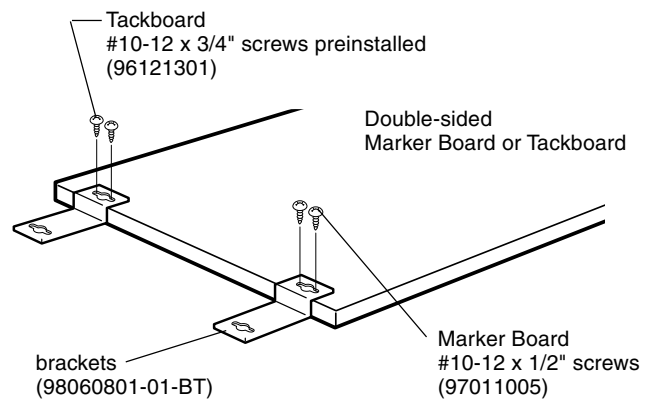
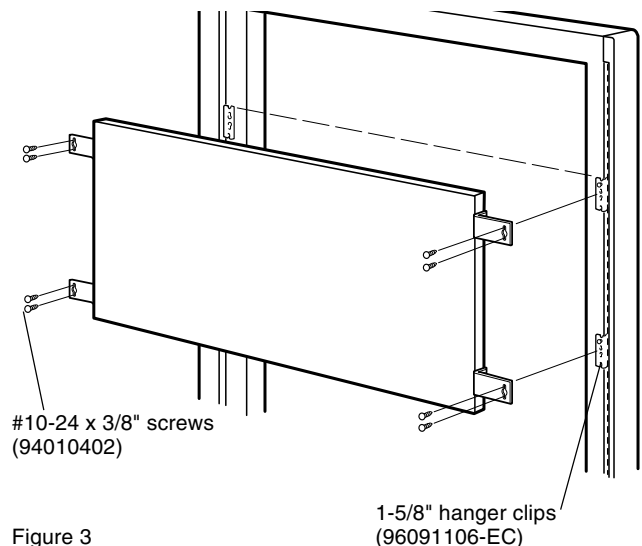

Figure 2
Figure 3
1. Align mounting holes in short leg of bracket with holes in back side of board. Attach each bracket with two (2) #10-12 phillips screw provided. Make sure screws are snug. Tackboards have the screws preinstalled, remove one screw per bracket location and reinstall with brackets. (Figure 2)
2. At designated mounting location install 1-5/8" (41) hanger clips on left and right side of frame. Make sure clips are firmly seated. Install a #10-24 x 3/8" phillips screw into top hole of each hanger clip leaving a 3/16" (4.6) gap between the screw and the clip.
3. Align top slots in brackets with the hanger clip screws. Slide down over screws to engage. Install remaining screws in bottom bracket holes. Securely tighten all screws. (Figure 3)